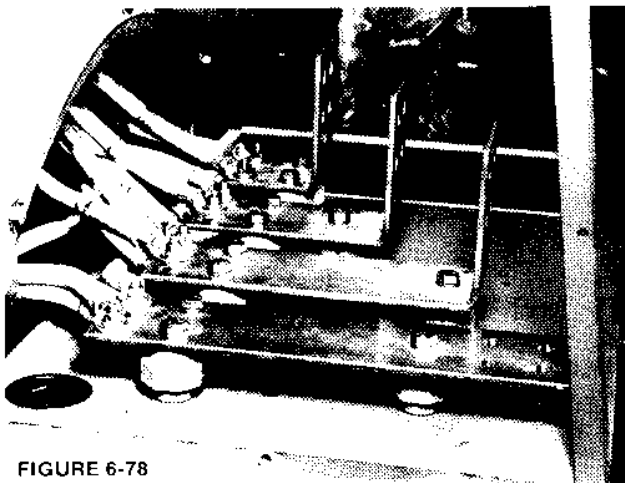

FIGURE 6-78
2. On generators with bus bar assemblies, re-assemble main stator leads and insulating blocks to bus bars. (Figure 6-78.)